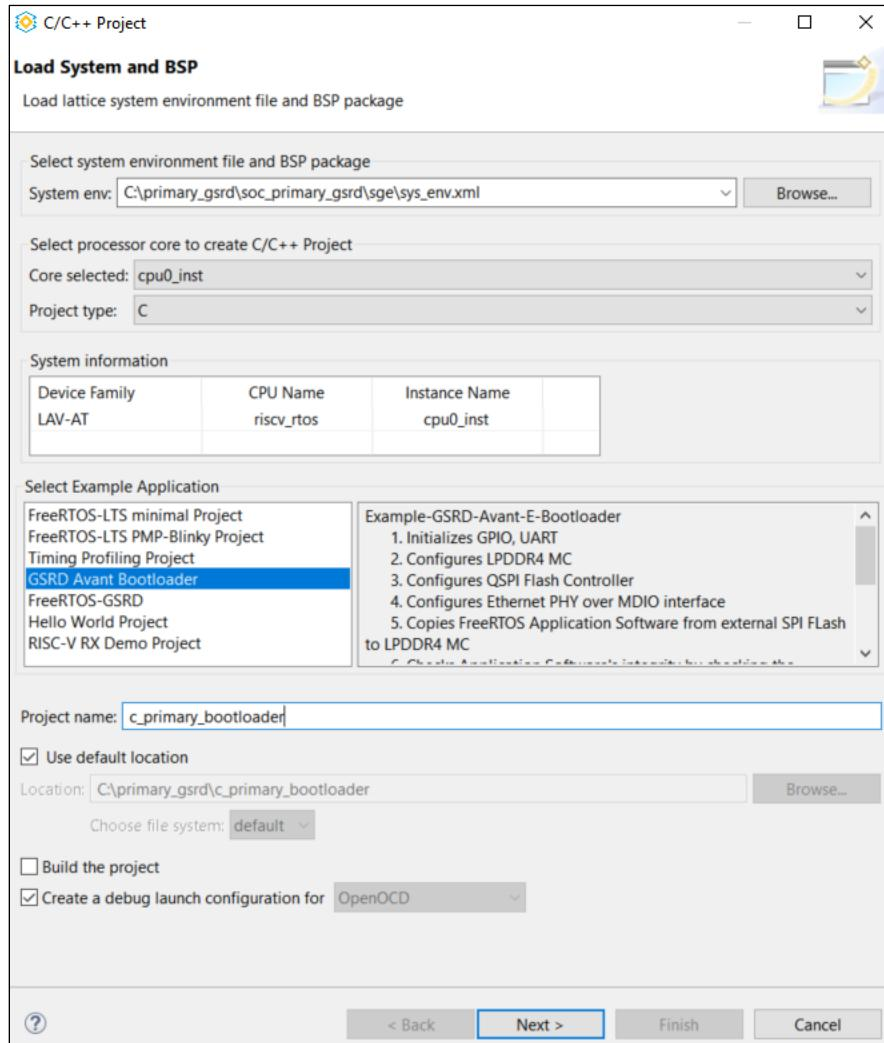

Figure 8.12. Bootloader C/C++ Selection
13. In C/C++ Project window, it automatically selects the generated sys_env.xml file. From Select Example Application section, Select the GSRD Avant Bootloader, and provide a name for your bootloader as in Figure 8.12.